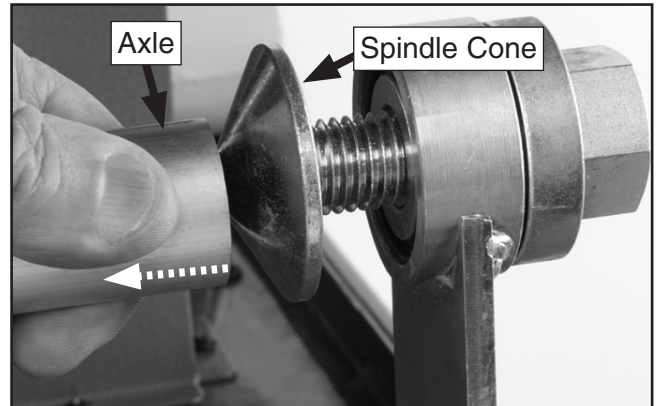

Figure 28. Removing supply axle.
3. While holding the axle, push on the spring-loaded spindle and swing the axle out and away from the spindle cone (**Figure 28**).